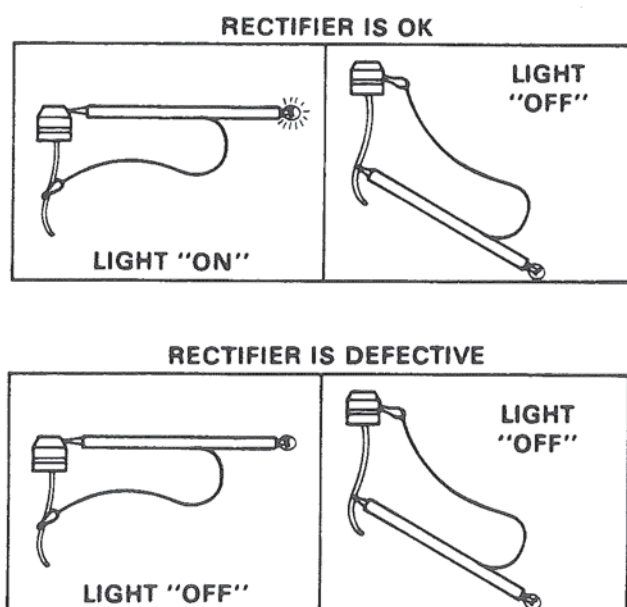

Figure 28. Individual Rectifier Tests.
B. To determine which rectifier is bad, disconnect stator test on each rectifier. Figure 28. The bulb will NOT light in either direction if the rectifier is defective (open). Replace rectifier if bulb does not light.